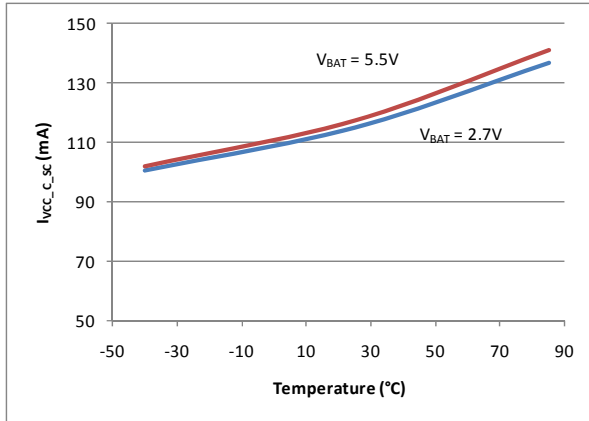
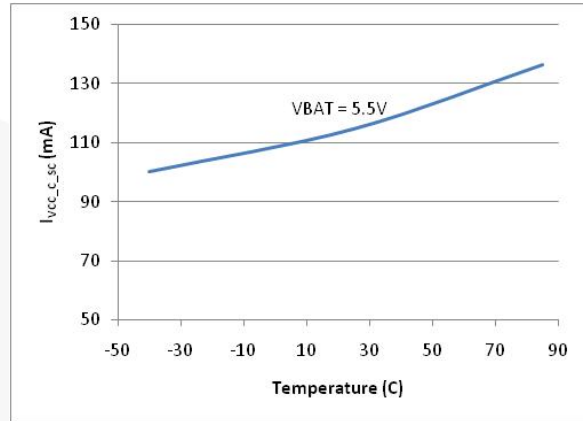
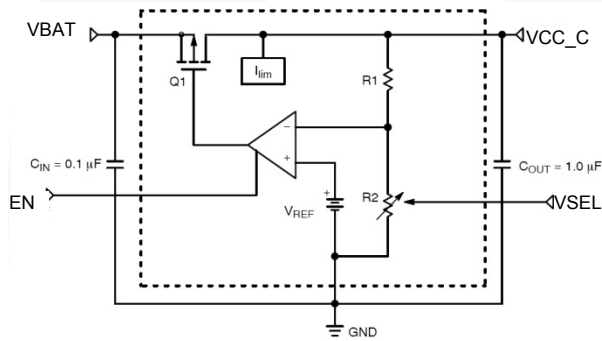

Figure 4. Short-Circuit Current, (I_{VCC_C_SC}) vs. Temperature V_{CC_C}=1.8V (V_{SEL}=LOW)
Figure 5. Short-Circuit Current, (I_{VCC_C_SC}) vs. Temperature V_{CC_C}=3.0V (V_{SEL}=HIGH)
Figure 8. Simplified Block Diagram of the LDO Voltage Regulator
FXLP4555 has a shutdown input (EN) that allows it to turn off or turn on the regulator output. Figure 8 shows a simplified view of the voltage regulator. The VCC_C output is internally current limited and protected against short circuits. The short-circuit current ($I_{VCC_C_SC}$) is constant over the SIM Card V_{CC} and V_{BAT} , while it varies with operating temperature, typically in the range of 90mA to 140mA (Figure 4 and Figure 5).